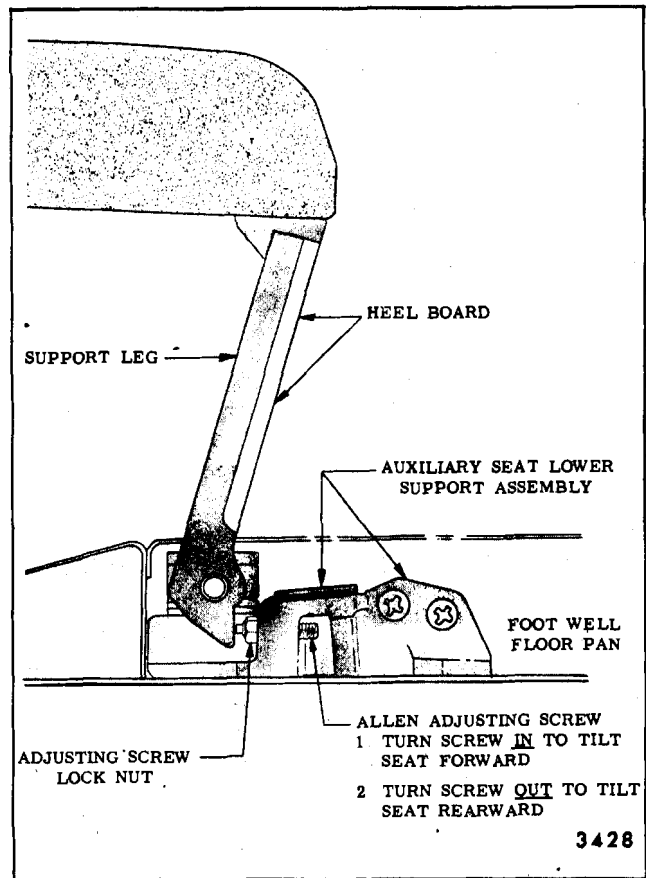

Fig. 14-57-Auxiliary Seat Adjustment - Cadillac Limousine Styles
2. On the front side of the auxiliary seat heel board, turn back foot well carpet flap to expose the auxiliary seat lower outboard and inboard support assemblies (Fig. 14-57).
3. Loosen the allen adjusting screw lock nut at both inboard and outboard support (see Fig. 14-57).
4. Carefully turn the adjusting screw (see Fig. 14-57) at both supports the **SAME AMOUNT** to allow the seat to pivot rearward further; thereby, providing additional leg room for the auxiliary seat passenger. Tighten the adjusting screw lock nut at both supports.